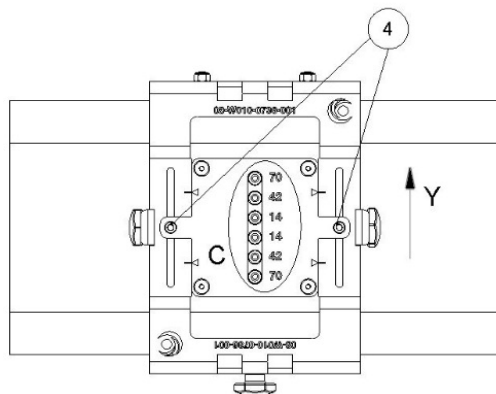
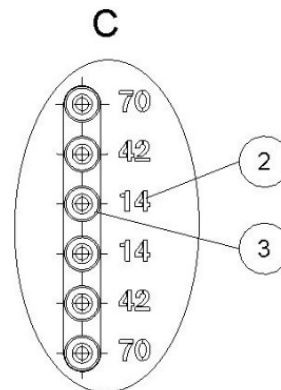

Fig. 39: Drill hole distance of the female connectors
Fig. 40: Drill hole distance of the female connectors (detail C)
The holes for the hanger clamps are placed via the row of the female connectors (1). The row of the female connectors has markings (2 and 3 see Fig. 39 and Fig. 40) indicating the distance between the drill holes of the hanger clamps (detail C). The drill hole distance depends on the number of poles. The position of the holes can be adjusted in y-direction via the slotted holes (4).